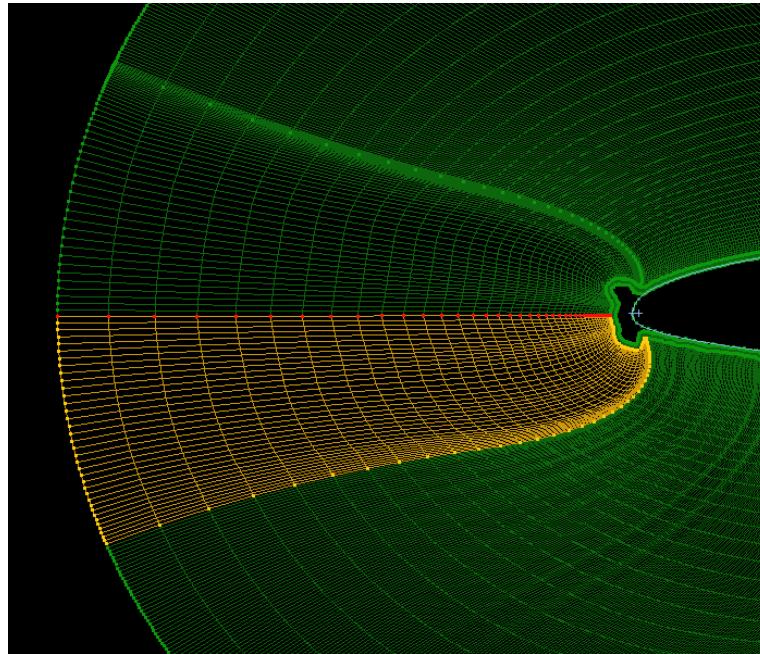

Figure 21. IMAX edge of block “near field\_003” selected.
- Select the entire IMAX edge of *near field\_003*. This is the edge that extends directly out from the front of the iced airfoil. See Figure 21.